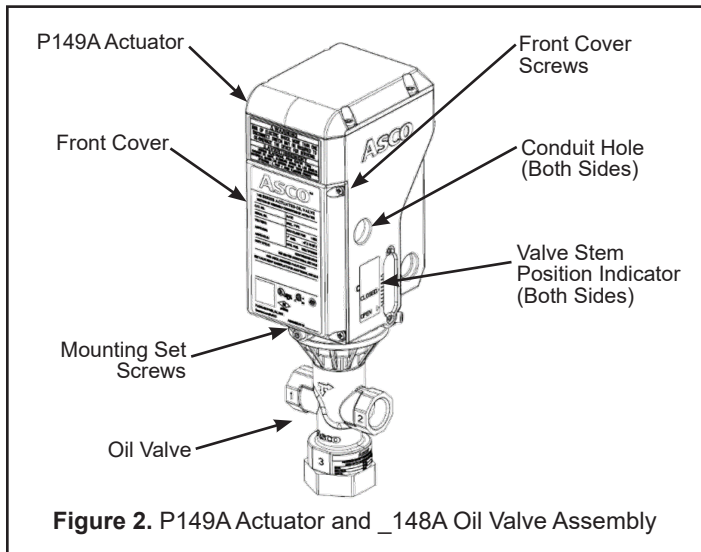

Figure 2. P149A Actuator and _148A Oil Valve Assembly
2. Check to ensure that the mounting gasket, if applicable, is in the proper position, clean and without damage. Position the actuator to operate the valve. Secure actuator with the three mounting set screws. Tighten set screws to 9,0 ± 0,5 N-m (80 ± 5 in-lbs) using a 4 mm hex bit socket. Ensure actuator base is fully secured against valve body mounting surface for proper operation. (See Figure 2).